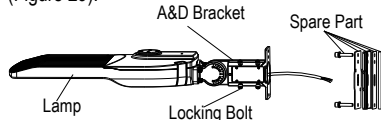

Figure 28
Step 1: Remove the spare parts from the A&D bracket (Figure 28).